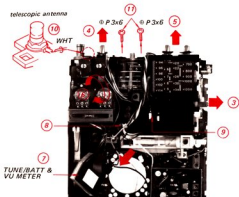

Fig. 2-15.
- ① Remove rear cabinet ass'y and chassis with electrical and mechanical parts mounted, as outlined in 2-1 and 2-2 on pages 5 and 6.
- ② Remove dial film ass'y as outlined in 2-3 on page 6.
- ③ Remove gear chassis as outlined in 2-5 on page 6.
- ④ Remove POWER switch complete circuit board as outlined in 2-6 on page 7.
- ⑤ Remove METER SELECT and AFC/MW SENS switch complete circuit board as outlined in 2-7 on page 7.
- ⑥ Remove control complete circuit board as outlined in 2-8 on page 7.
- ⑦ Remove TUNE/BATT & VU METER as outlined in 2-9 above in the direction shown by the arrow ⑦ in Fig. 2-15 below.
- ⑧ Remove wire tie as shown in Fig. 2-15 below.
- ⑨ Remove lamp from main chassis as shown in Fig. 2-15 below.
- ⑩ Unsolder WHT lead wire at telescopic antenna solder lug.
- ⑪ Remove two machine screws, P 3x6, shown in Fig. 2-15 below.